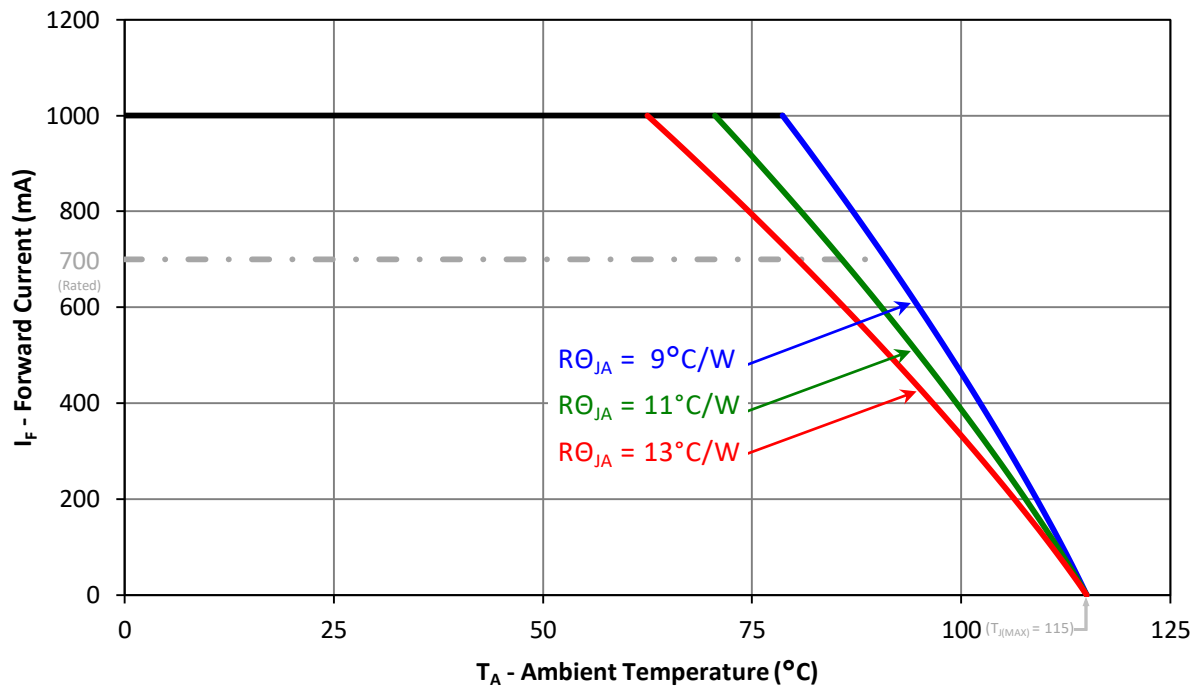

Figure 11: Maximum forward current vs. ambient temperature based on  $T_{J(MAX)} = 115^\circ\text{C}$
- Maximum DC forward current is determined by the overall thermal resistance and ambient temperature. Follow the curves in Figure 11 for current derating.
Notes for Figure 11: